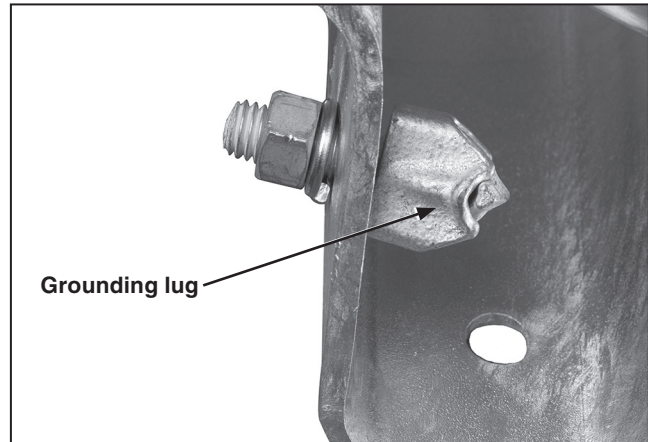

Figure 6. The grounding lug.
STEP 8. A grounding lug is provided with the switch and should be installed in the hole on the pole-saddle. See Figure 6. It is essential to ground the switch to maintain sensor accuracy, prevent damage to the control cable from lightning strikes or energy surges, and to direct any surge path through the ground, and not through the control unit, where damage or personal injury may occur. Ground the switch by solidly connecting the end of a number 2 AWG wire (or two number 6 AWG wires, or wires having an equivalent cross-sectional area) to the grounding lug on the pole-saddle. See Figure 6.